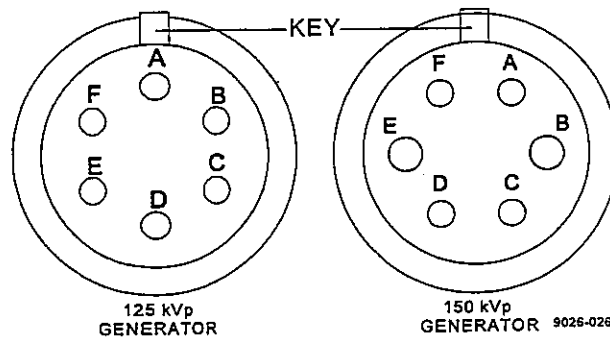

FIGURE 3-2 HV GENERATOR J2 PINOUTS
2. Make the following checks on J2 (the 6-pin circular connector) with the DVM (See FIGURE 3-2):